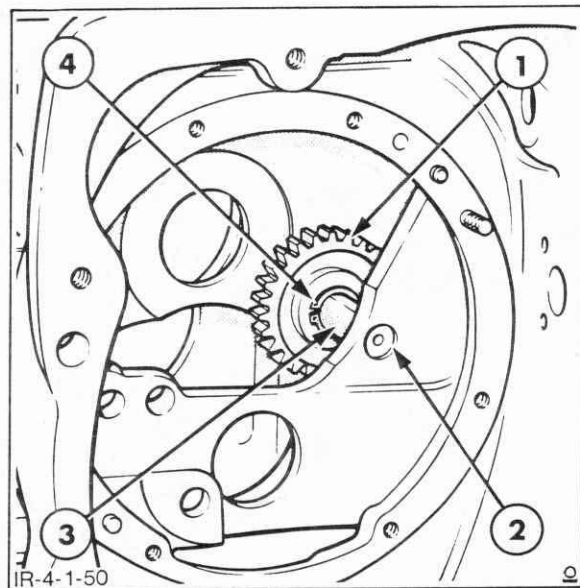
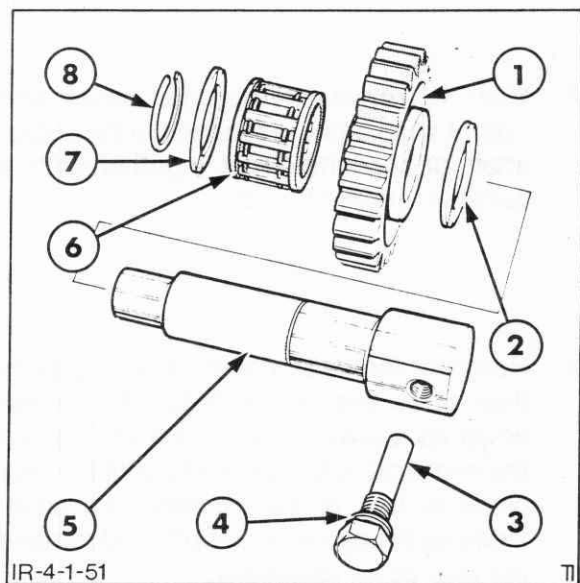

Figure 4-151
Figure 4-152
6. Remove the snap ring from the reverse gear idler shaft, Figure 4-151, and slide the shaft rearwards from the transmission case retrieving the gear, bearing and thrust washers as the shaft is removed, Figure 4-152.